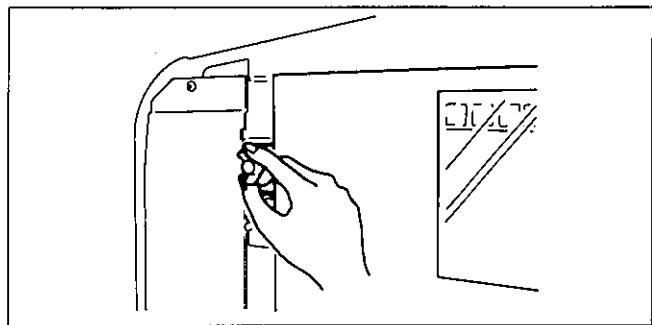

Fig. 2 Cover of control box
- (a) Loosen the screw fastening the cover to open the control box (see Fig.2).